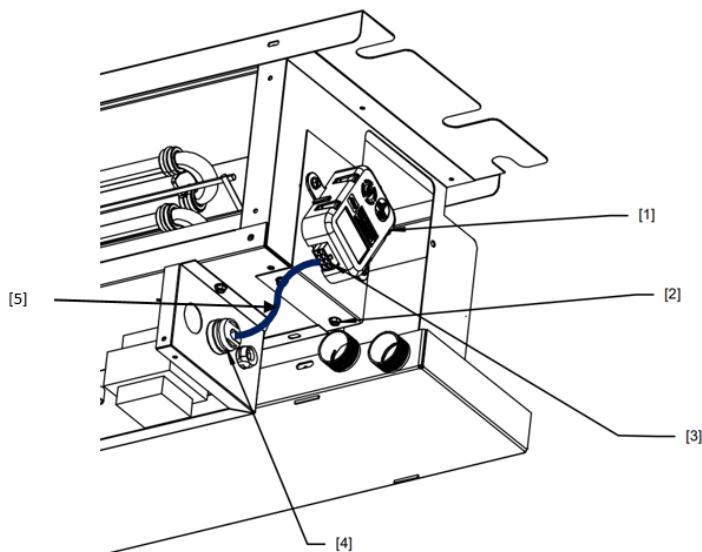

Figure 14 – Replacing Sensor to Bracket
3. Remove installed A2L sensor from bracket by removing two screws as shown in **Figure 14 – Replacing Sensor to Bracket**. (Use existing screws to install new sensor).
4. Attach new sensor to bracket using two existing screws. See **Figure 14 – Replacing Sensor to Bracket**.